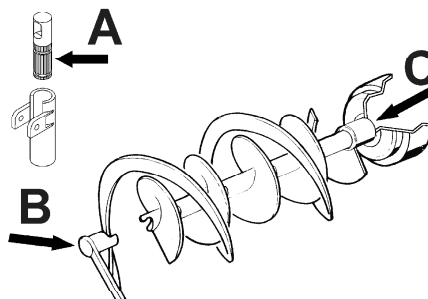

figure 13
- 2 - Lubricate faucet piston, inside auger and outer spiral (see points A, B and C of figure 13) only with the grease supplied by the manufacturer or other **food grade approved** lubricant.